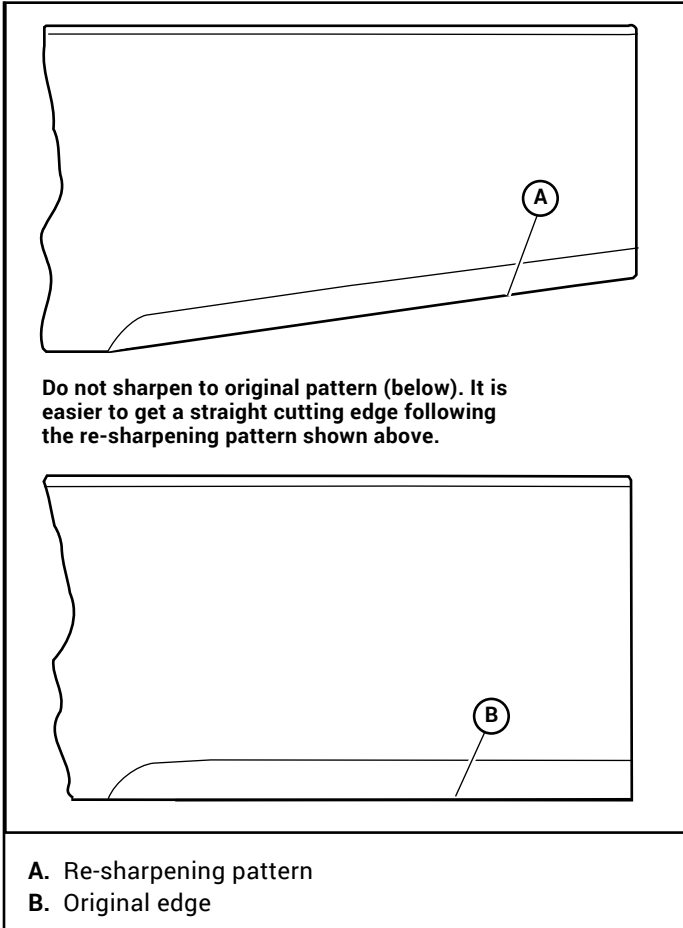

Figure 4-7
- A. Sharpen the blades following the pattern shown. Touch-up sharpening can be done with a file. Figure 4-7